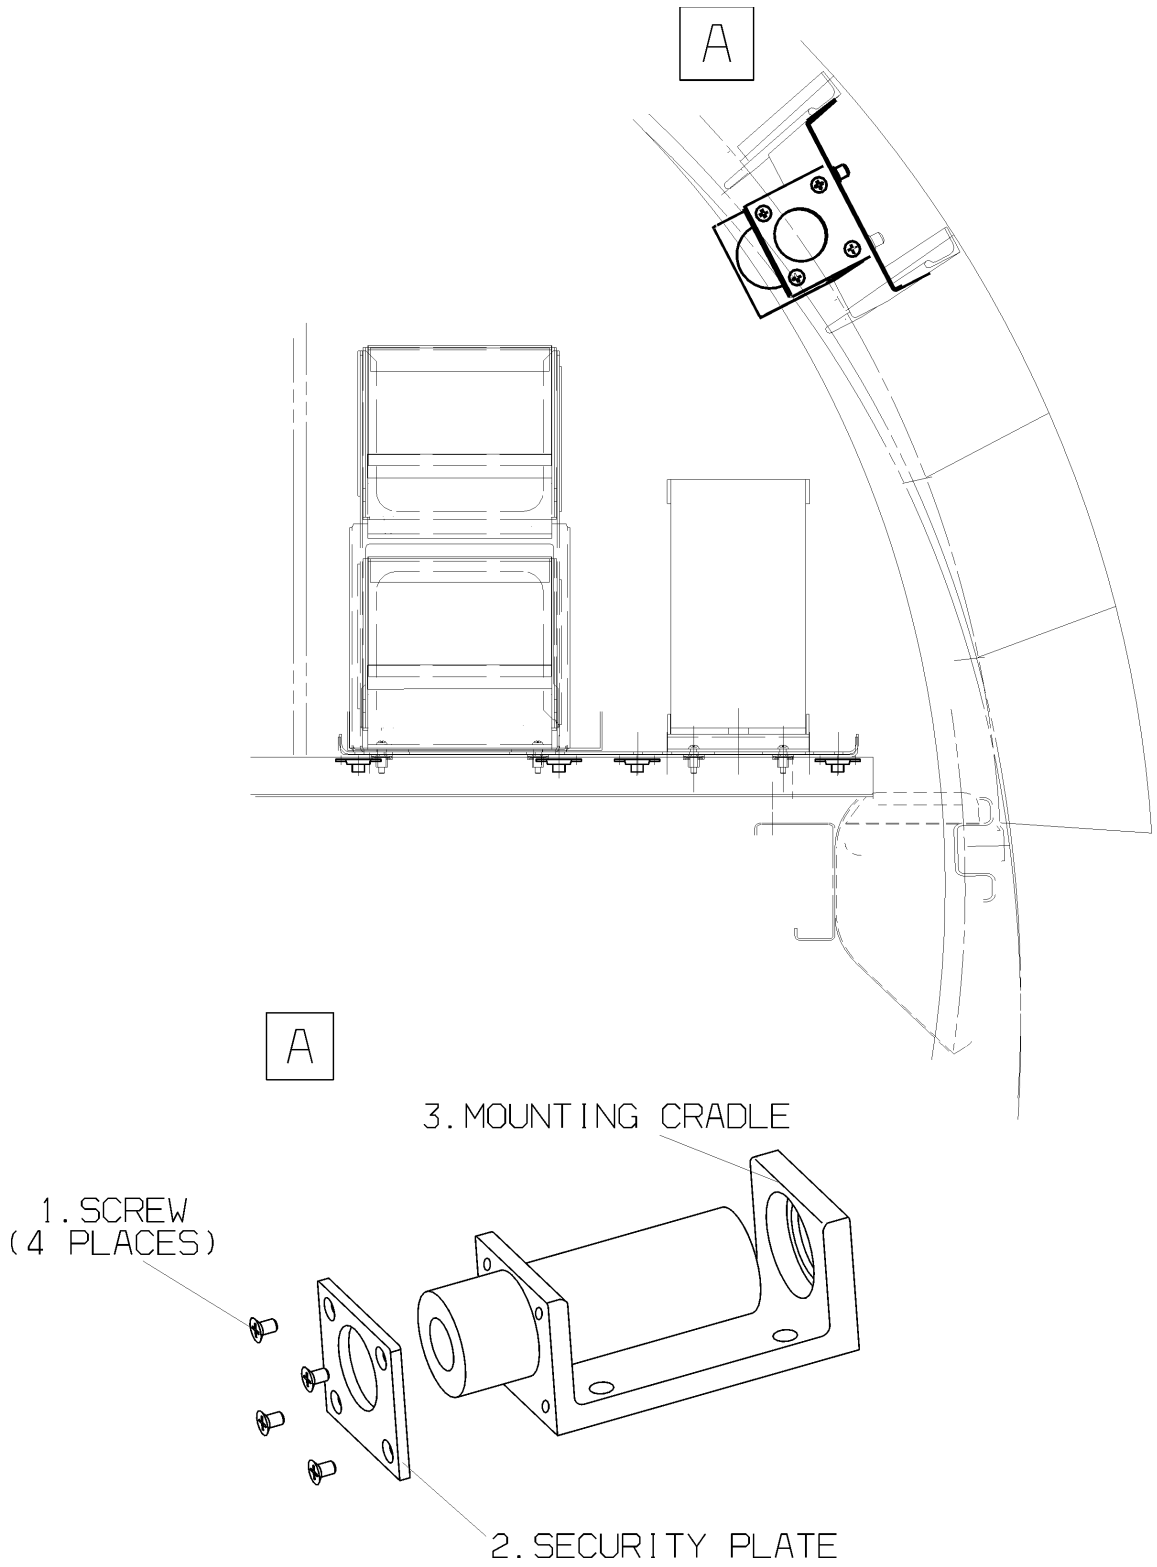

Fig. 202 - Underwater Acoustic Beacon Removal/Installation
- (1) See the Re-Programming Manual for ELT G-Switch last issue.
7. Underwater Acoustic Beacon (UAB) - Removal (Ref. to Fig. 202)
- (1) Remove the 4 screws (1) that assure the Unit (UAB) to the Mounting Cradle (2).
- (2) Remove the Security Plate (3).
- (3) Slide out the (UAB) from the Mounting Cradle (2).
8. Underwater Acoustic Beacon (UAB) - Installation (Ref. to Fig. 202)